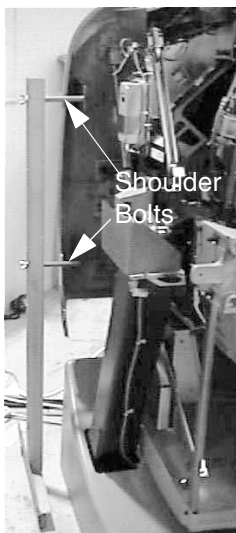

Figure 5 One side of the Rear cover dolly
- b.) Fit side dolly through the shoulder bolts and secure assembly with two (2) wing nuts. See Figure 5.